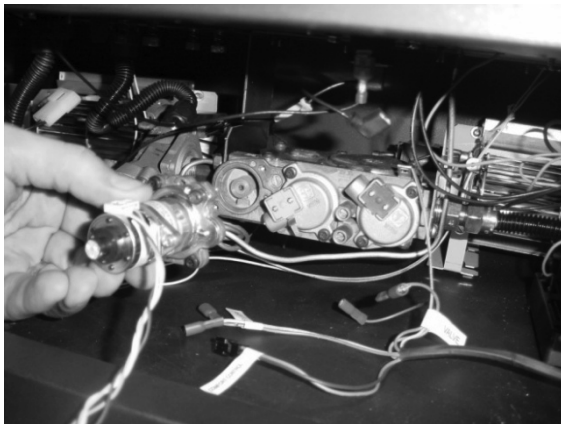
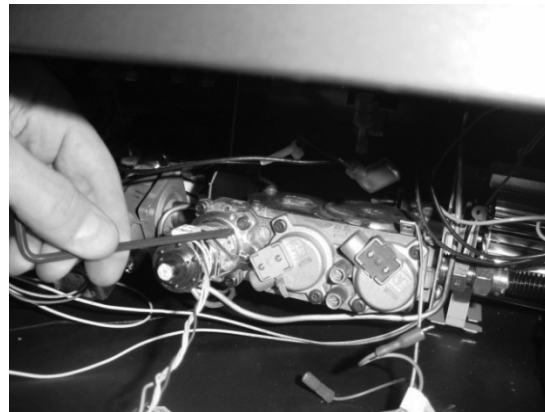

Figure 1
Figure 2
- (b) Remove and discard the Natural Gas (NG) orifice. Place the LP orifice in the pilot assembly then replace the pilot hood, tightening the pilot hood until it is snug (do not over-tighten).
- 6 Remove the control panel to access the gas control valve. The stepper motor (adjustable regulator) has an installation sheet included with it – make sure to follow all of the directions. Place the stepper motor on the gas control valve (see Figure 1) – **MAKE SURE IT IS CORRECTLY ORIENTED**. Secure using the screws included with the motor (see Figure 2) – tighten to 25 Lb-inches. Leak test this area after installation to verify proper installation.